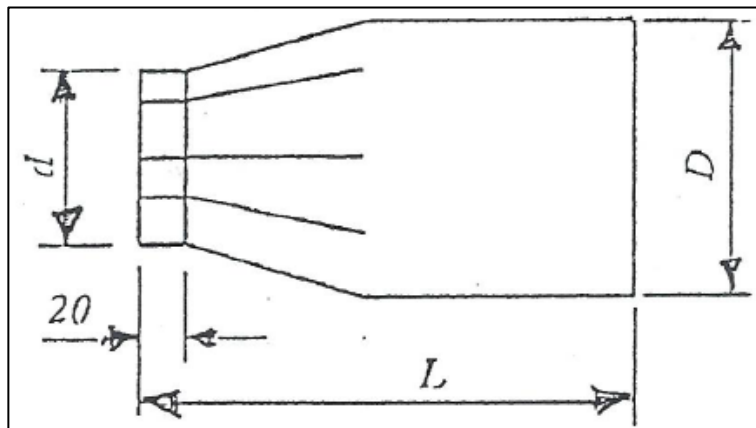

FIGURE 2
4.2 FIGURE 2 shows a pipe reducer.